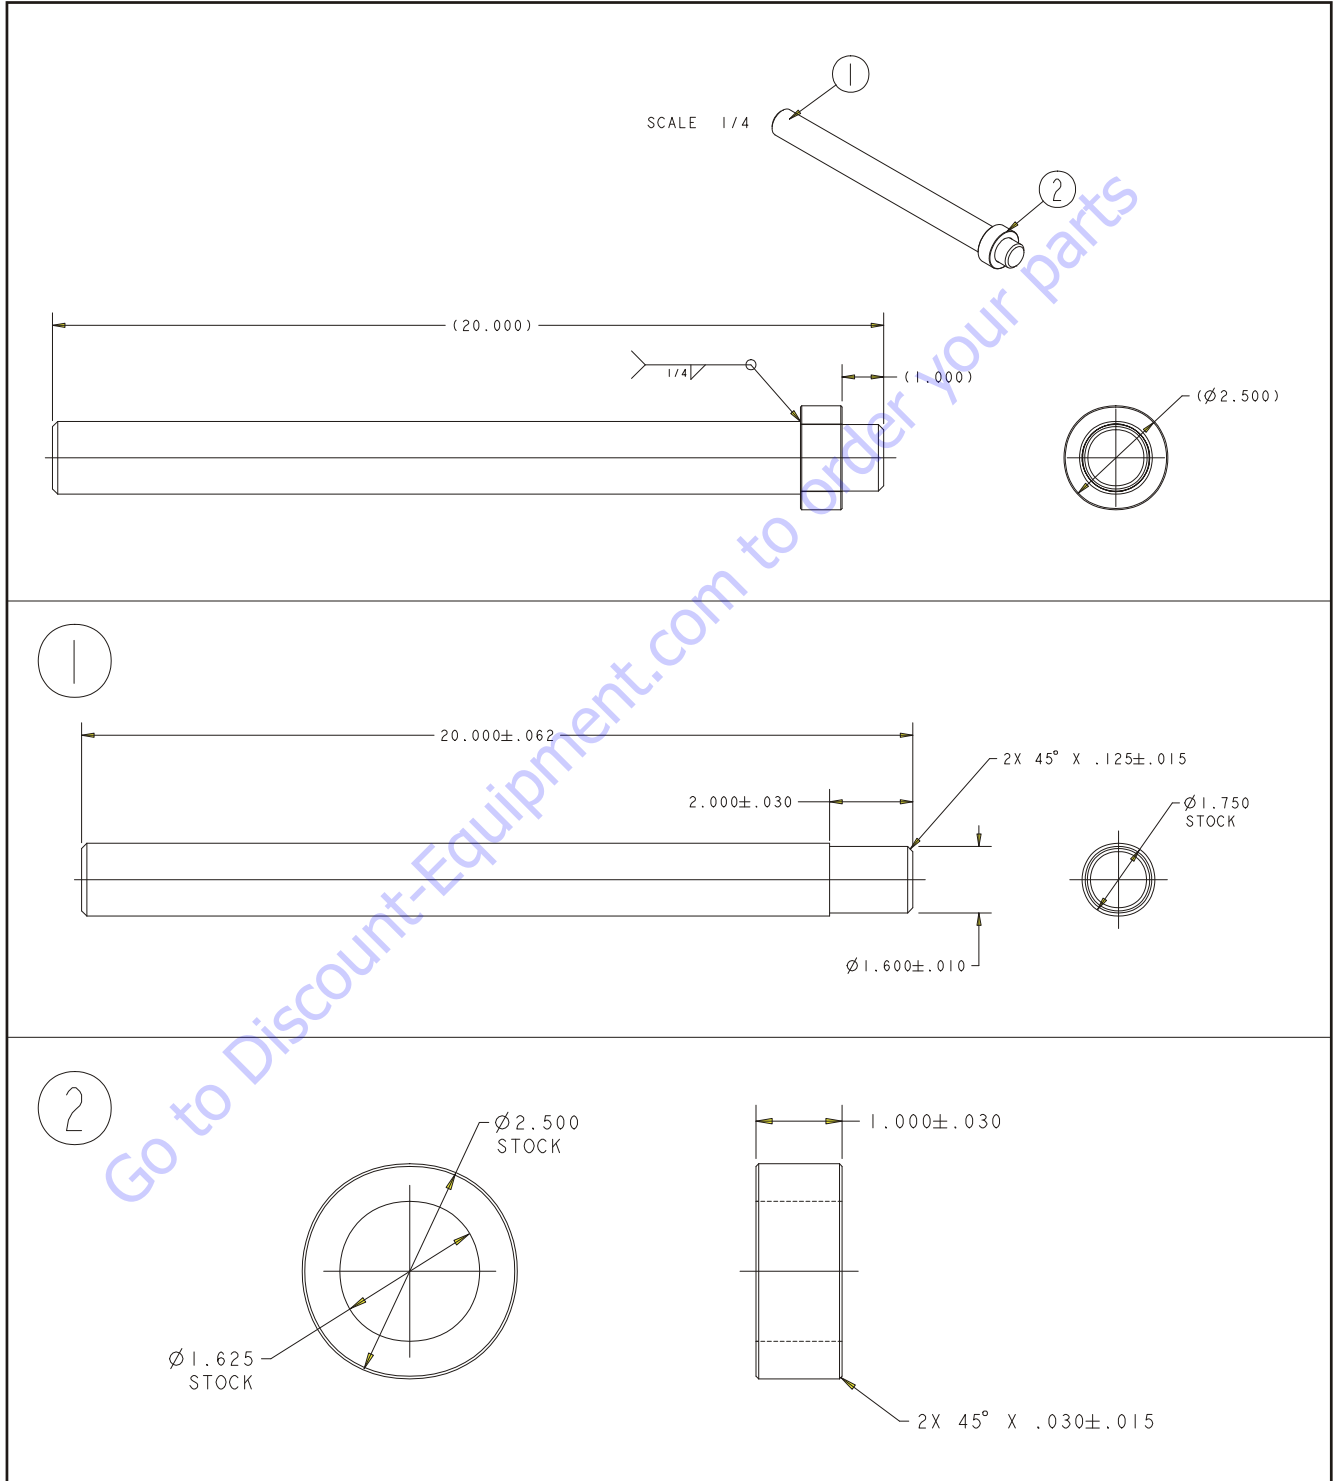

Figure 4-52. Load Pin Removal Tool, JLG PN 4846765
26. Use the Load Pin Removal Tool (JLG PN 4846765) to prevent the pin from being damaged, and use a hammer to remove the pin. To make the tool refer to Figure 4-52., Load Pin Removal Tool, JLG PN 4846765. If the Load Pin Removal Tool is not available, use an arbor of the proper size (as shown below). If excessive force is necessary to move the pin, it may be necessary to carefully activate lift using the auxiliary power switch to relieve lift cylinder weight from the load sensing pin.